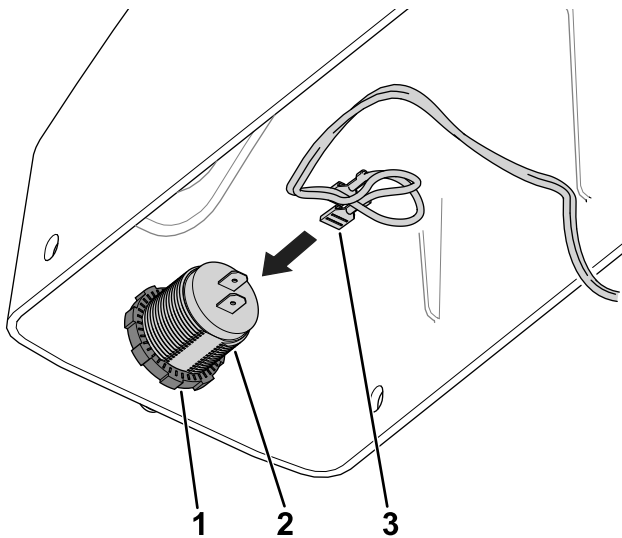

Figure 3
5. Use the previously-removed jam nut to secure the USB port to the parking-brake cover (Figure 3).
6. Connect the wire-harness end labeled USB PORT to the USB port (Figure 3).